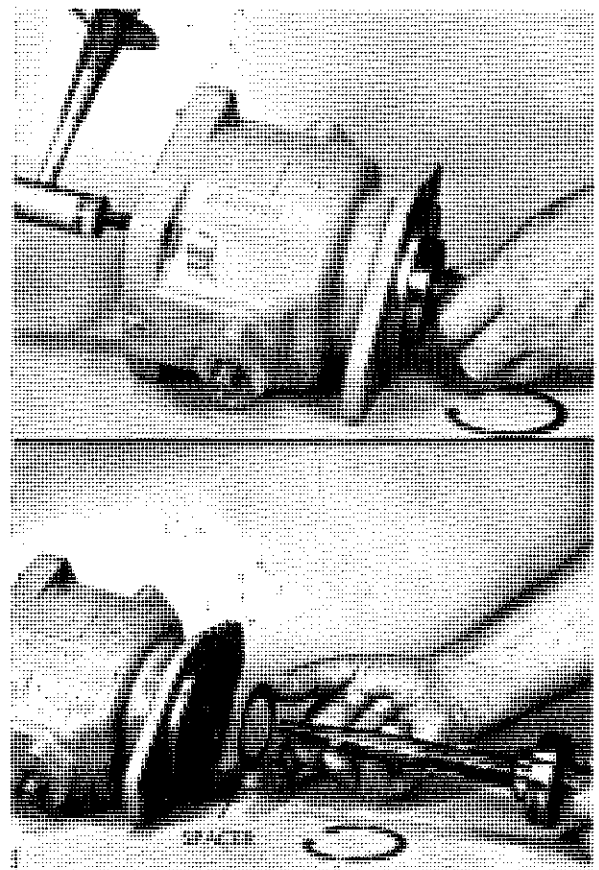

Figure VI-27. Removal of Shaft
- b. After removal of the snap ring retainer, tap the shaft on the small end with a plastic tip hammer for proper removal. Remove spacer that fits between the bearing shaft seal (Figure VI-27).